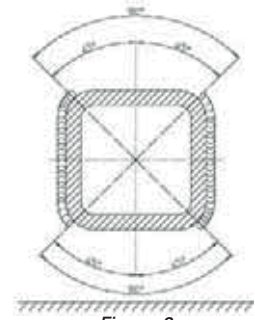

Figure 2
- Figure 2 shows the areas of the axle in square cross-section where welding can be carried out.